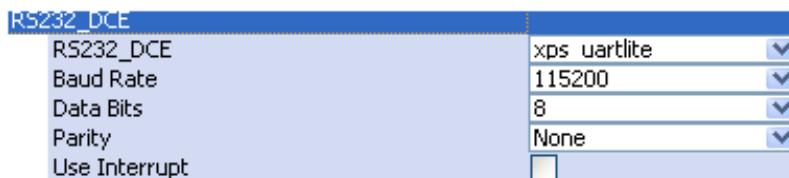

Figure 8. Configure RS-232 DCE
- RS232_DCE: XPS UARTLITE, 115200 baud rate, 8 Data bits, no interrupt, no parity (**Figure 8**)